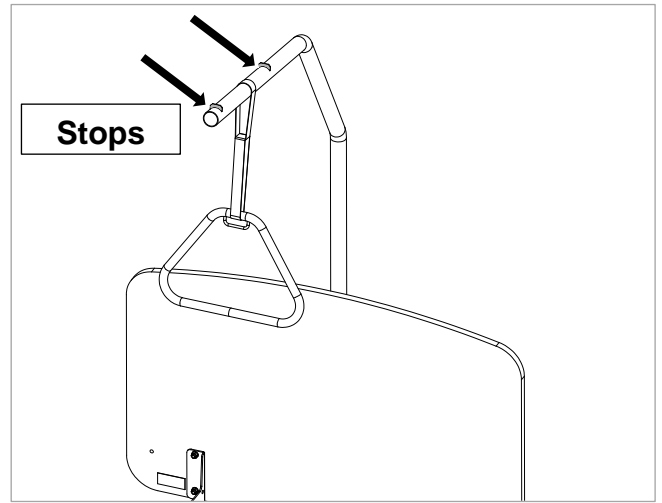

Figure 7.11
11. Ensure that the Fixing Belt is located between the two stops. This ensures that the Handle will not slip off the Lifting Pole during use (see Figure 7.11).